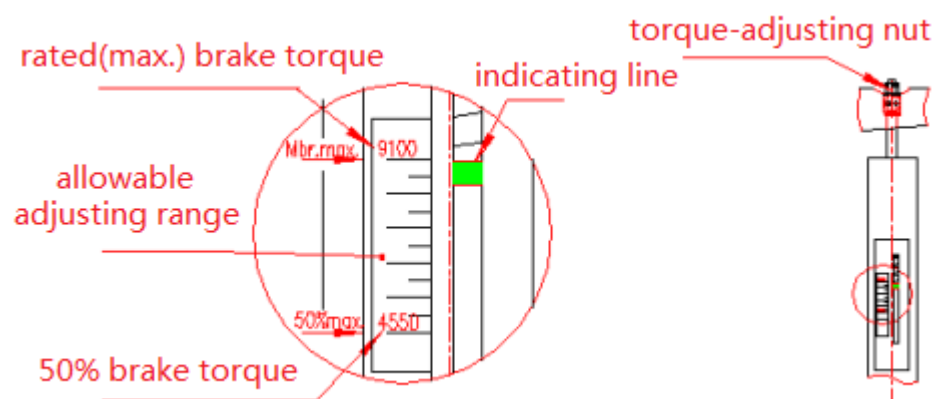

Fig. 4: Brake torque adjustment
The brake must be closed. Clockwise (CW) rotate torque-adjusting nut (Pos. 1) with a spanner, brake torque will increase, on the contrary, the brake torque will decrease.(refer to fig 4). The upper edge of the spring force indicator shows the brake torque.